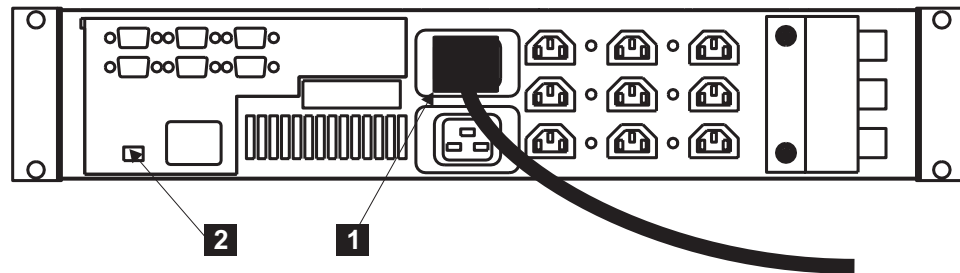

Figure 262. Installing the 2145 UPS power cable
9. At the back of the 2145 UPS, plug the 2145 UPS main power cable into the power socket, **1** in Figure 262 on page 267.